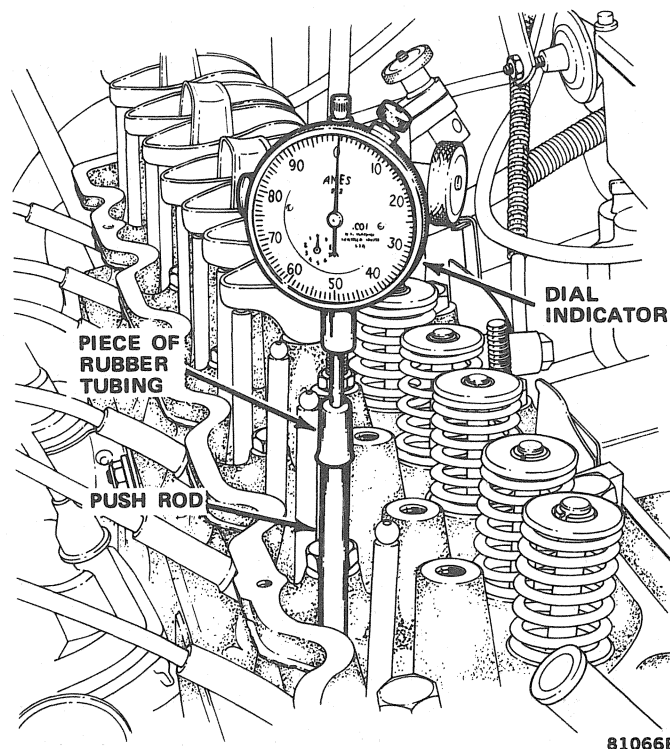

Fig. 1B-55 Cam Lobe Lift Measurement and Valve Timing
(1) Remove cylinder head cover.
(2) Remove bridge and pivot assemblies and rocker arms.
(3) Remove spark plugs.
(4) Install dial indicator on end of push rod. Use piece of rubber tubing to hold dial indicator plunger squarely on push rod (fig. 1B-55).
(5) Rotate crankshaft until cam lobe base (heel) circle (push rod down) is under valve tappet. Set dial indicator to zero.
(6) Rotate crankshaft until push rod reaches its maximum upward travel. Note distance on dial indicator. Correct cam lobe lift is 0.242 to 0.254 inch (6.147 to 6.451 mm).
(1) Disconnect ignition wires and remove spark plugs.
(2) Remove cylinder head cover.
(3) Remove bridge and pivot assembly and rocker arms from No. 1 cylinder.
(4) Rotate crankshaft until No. 6 piston is at TDC on compression stroke.
(5) Rotate crankshaft counterclockwise (viewed from front of engine) 90°.
(6) Install dial indicator on end of No. 1 cylinder intake valve push rod. Set dial indicator to zero (fig. 1B-55).
(7) Rotate crankshaft clockwise (viewed from front of engine) until dial indicator pointer indicates 0.016-inch (0.406 mm) lift.
(8) Timing mark on vibration damper should be indexed with TDC mark on timing degree scale. If timing mark is more than 1/2 inch (12.7 mm) from TDC in either direction, valve timing is incorrect.